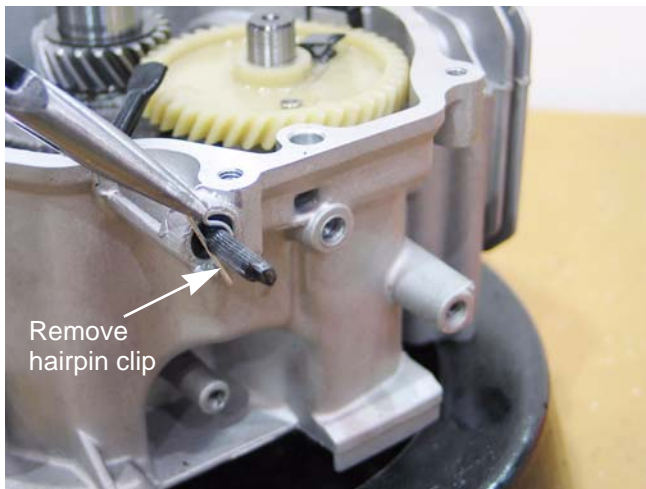

Figure 4.54
- Remove the hair pin clip from the governor shaft. See Figure 4.54.